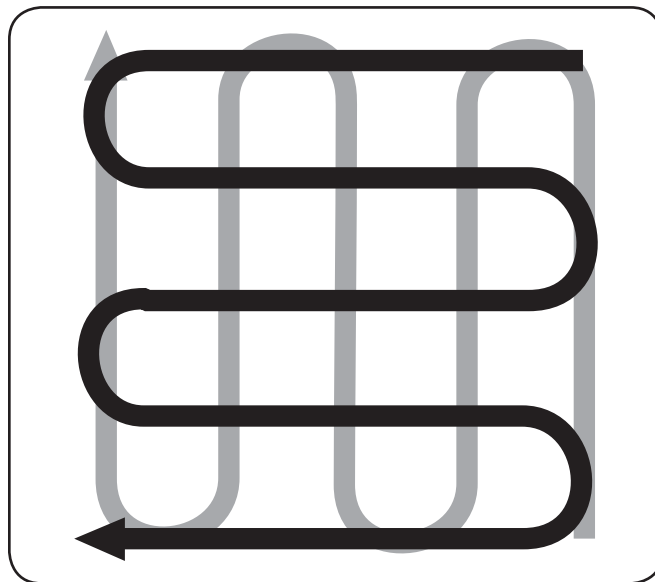

Figure 5-6
- When finished in one direction, make a second pass at a right angle, as shown in Fig. 5-6. Overlap each pass for best results (in very hard ground, it may take three or four passes to thoroughly pulverize the soil.)